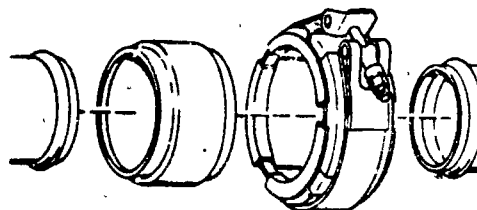

Figure 14.
- ___ 2. The coupling shown in figure 14 is used to attach units to the ducts in the hot bleed air system.